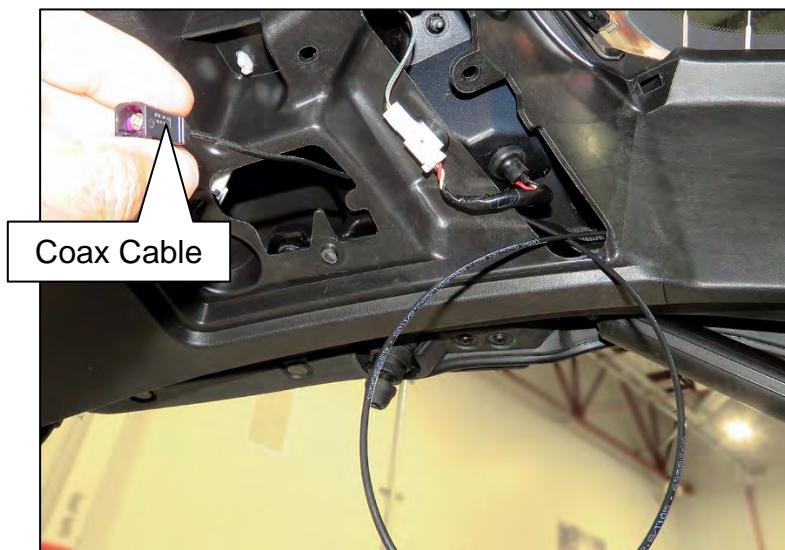

Figure 27
34. Route the Coax Cable through the Back Door to the next opening, as shown in Figure 27.